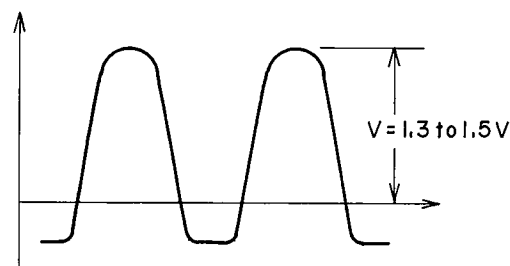

Fig. 41
- 3) Adjust VR4 until the oscilloscope waveform resembles that in Fig. 41.
- 4) Check that the waveforms at other holes are also the same as Fig. 41.